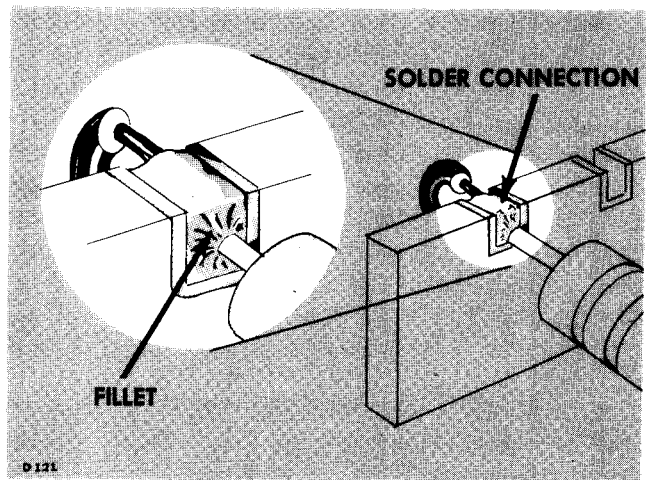

Fig. 5-3. A slight fillet of solder is formed around the wire when heat is applied correctly.
6. Do not attempt to fill the notch on the strip with solder; instead, apply only enough solder to cover the wires adequately, and to form a slight fillet on the wire as shown in Fig. 5-3.
freely along the wire so that a slight fillet will be formed as shown in Fig. 5-3.